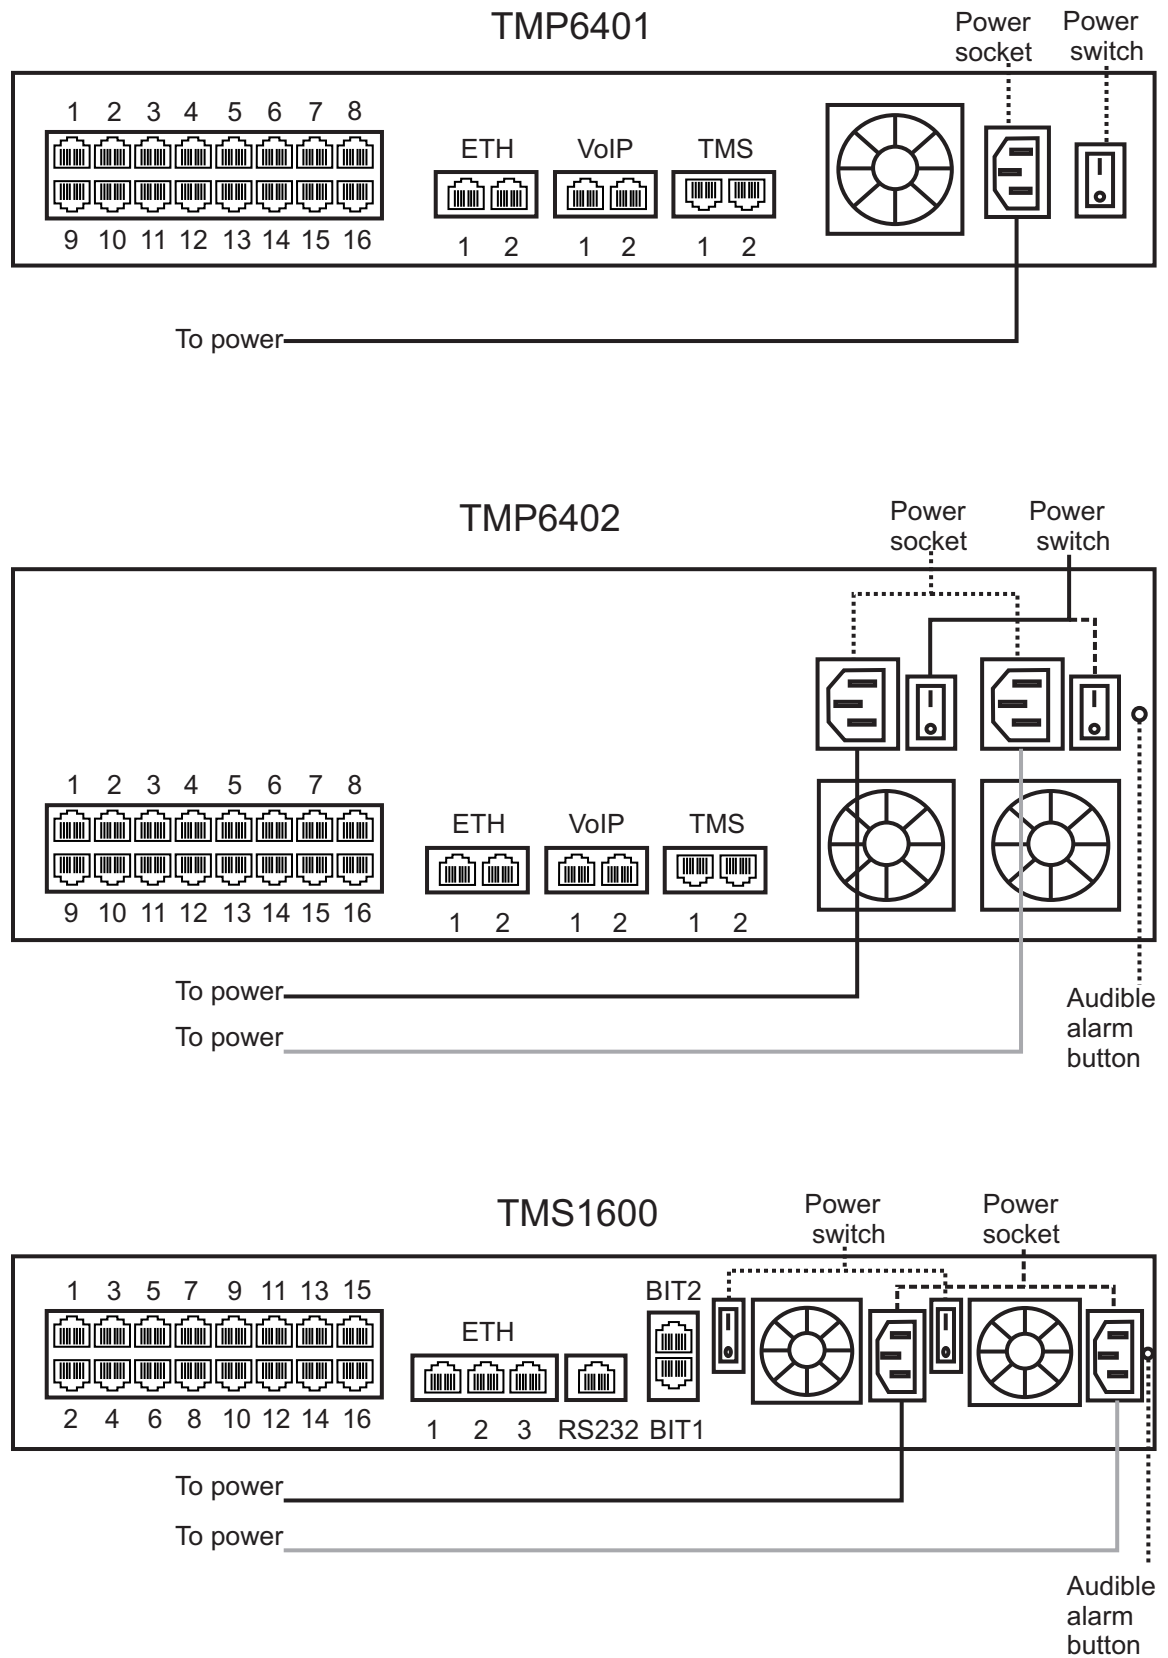

Figure 2.14 AC Power Connection
The Tmedia units are furnished with one or optionally two AC power connectors (figure 2.14 on page 26).
1. Connect one AC power cable between the AC connector of the Tmedia unit and an AC supply. See figure 2.14 on page 26. If the Tmedia unit features a second AC connector, connect an additional AC power cable between this connector and an AC power supply. If the Tmedia unit features a second power supply and it is not connected to an AC power source, press the green button located at the rear of the unit to disable the audible alarm. See figure 2.14 on page 26. For a TMS1600, if a second power source is not connected, press the red button at the rear of the unit to disable the audible alarm.